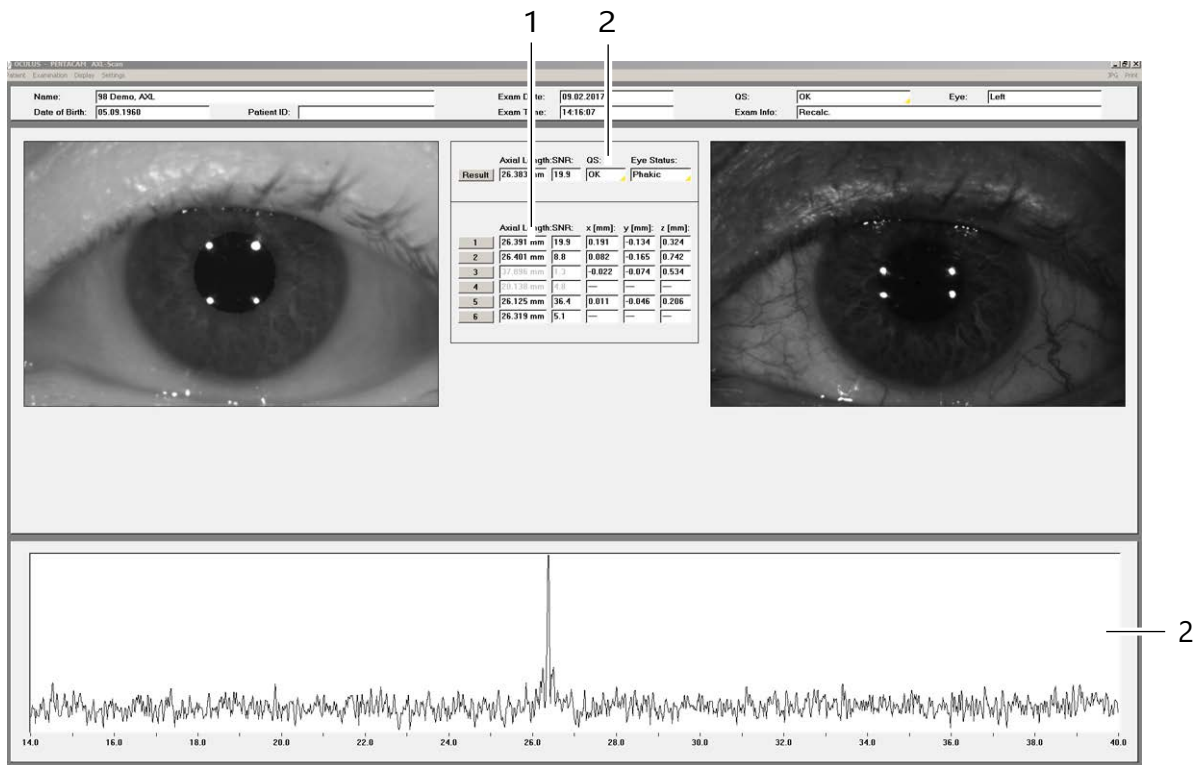

Fig. 7-14: Result display for axial length measurement
- **1 – 6, x (mm), y (mm), z (mm):** Display of all six single scans with results. Via clicking on the numbered buttons the respective signal curves can be viewed. Grey colored values: In order to enhance the quality of measurements all single scans are screened to remove invalid signal peaks. These are displayed in grey color and are not considered in the final result, see → fig. 7-14 (page 49).